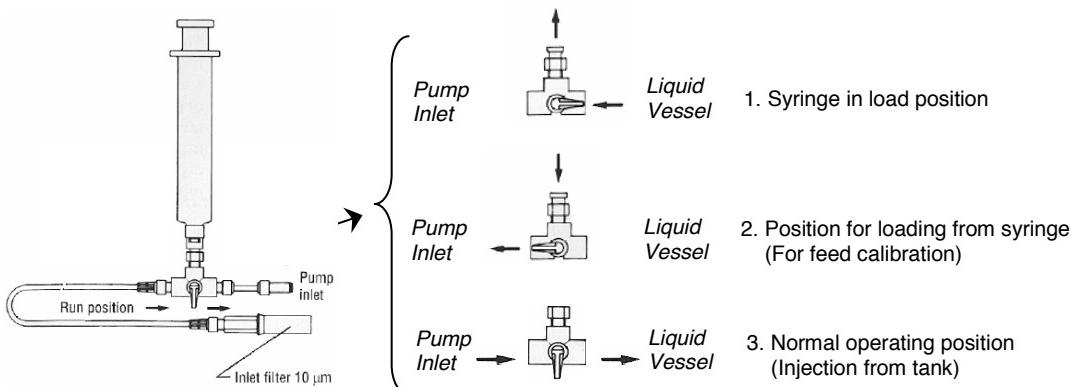

Figure 4-20
- With the valve in the position “load syringe” (Figure 4-20, position no. 1), draw on the syringe’s plunger, thereby introducing liquid inside, removing air bubbles from the feed line.
- Set the valve to the position “Injection from syringe” (Figure 4-20, position no. 2) and press the “Prime” key on the keyboard. The pump will then begin to pump liquid at its maximum speed. Press the plunger on the syringe until no air bubbles can be seen at the pump inlet and liquid reaches the outlet.
- Set the valve to its normal operating position (Figure 4-20, position no. 3). When no more air bubbles are observed at the outlet on the liquids pipe, press the “Stop” function key to finish venting the pump.